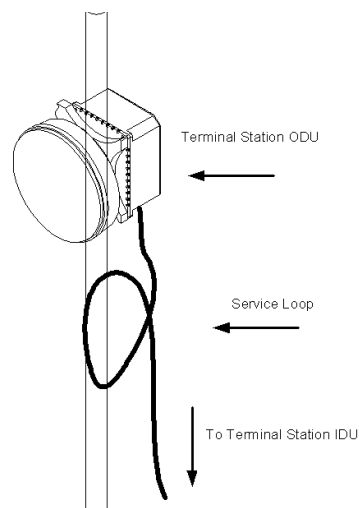

Figure 8-16: TS 26 GHZ-ODU Service Loop
- At the RFU end of the cable, leave a Service Loop. Refer to Figure 8-16. When routing the coaxial cable, leave a **service loop** at the RFU end to provide a sufficient length of cable to allow replacement of a faulty connector, when necessary. Secure the coaxial cable so that there is no mechanical stress at the RFU connection. Follow the superstructure with the coaxial cable to its base, and then to the building. If the coaxial cable requires suspension from the base to the building, use a stranded wire to support the coaxial cable weight (This support will prevent a migration of the cable's inner conductor to the shield).